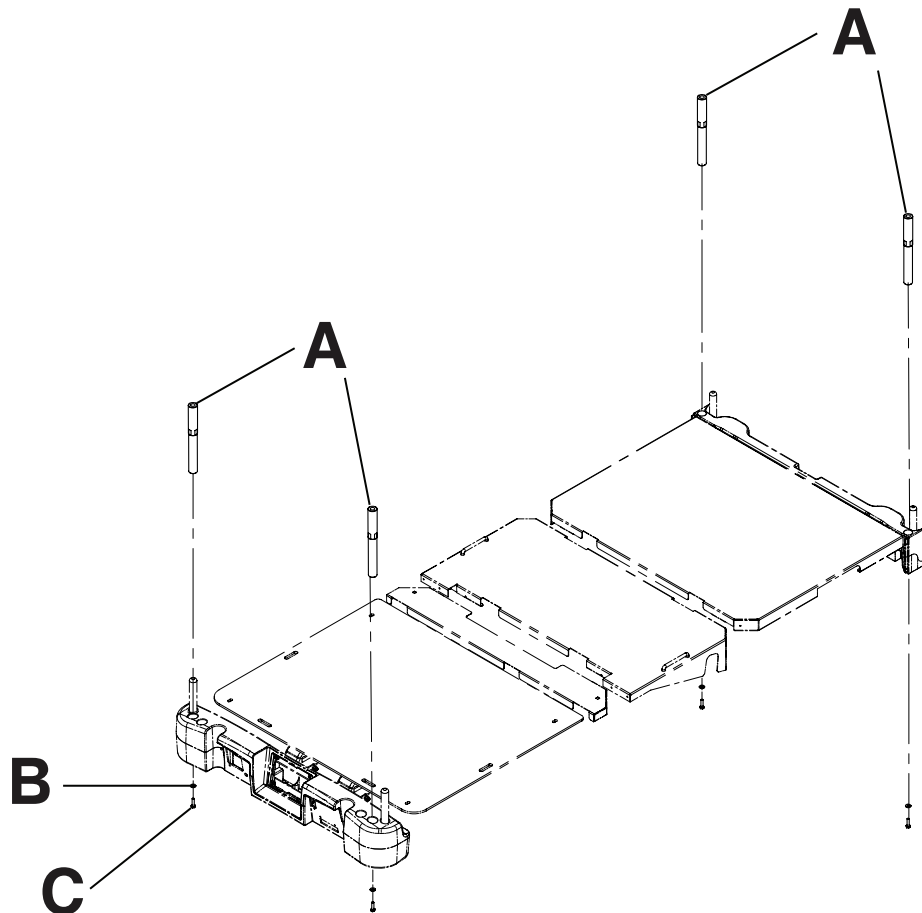

Figure 135: Traction sleeves
1. Attach the traction sleeves into the sockets at the head end and foot end of the product (A) (Figure 135 on page 118).
2. Using a 7/16 in. combination wrench, attach one washer (B) and one bolt (C) to secure the traction sleeve in the socket (Figure 135 on page 118).